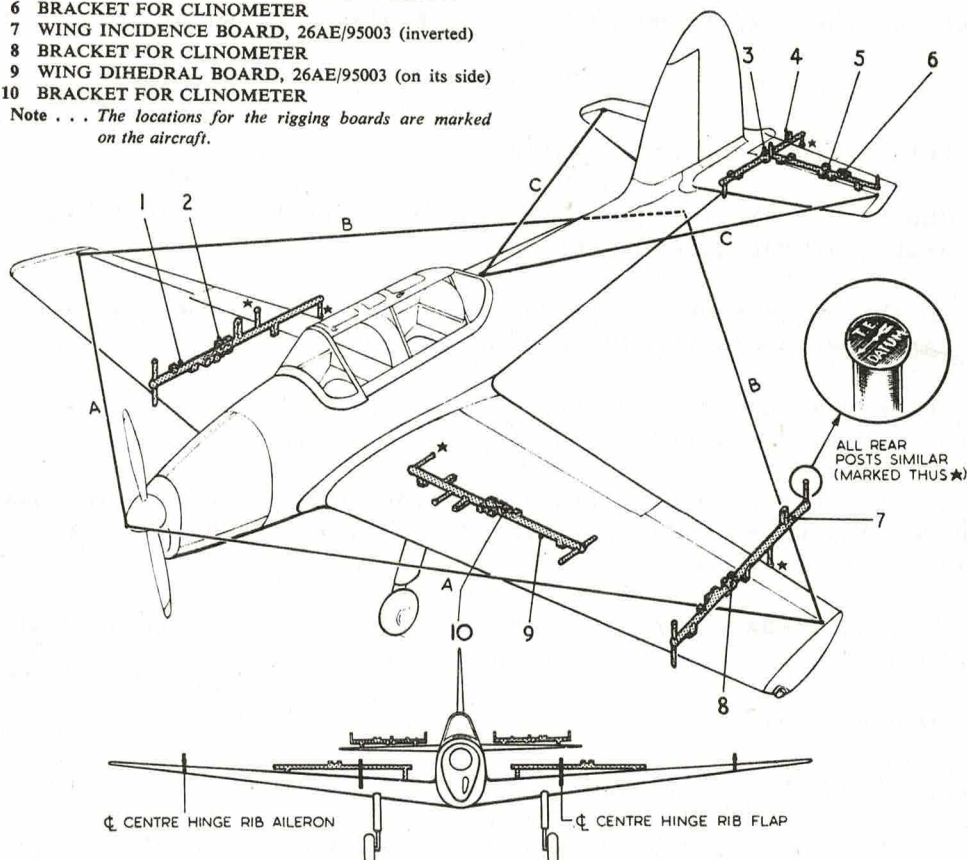

Fig. 1. Rigging diagram
Rigging (fig.1)
4. The sequence for checking the incidence, dihedral and diagonal measurement tolerances is shown in the key which faces fig.1.
KEY TO FIG.1 (RIGGING DIAGRAM)
1. Set the elevators neutral, i.e. : in line with the tailplane, checking by the T.E. Datum post at the rear of the incidence board (Ref. No.26AE/95004), which should be located correctly as on Figure 1.
2. With the aircraft in the rigging position, apply a spring balance at the trailing edge and pull upwards to a tension of 2 lb; in this position and with the incidence board (Stores Ref. 26AE/95003) located correctly on the aileron centre hinge rib (fig.1), the trailing edge, should be in line with the appropriate T.E. DATUM post at the rear of the incidence board, i.e. should form a continuation of the fixed wing profile.
2. Slacken off the cables by the turnbuckles (8).
3. With the incidence board (Stores Ref. 26AE/95003) located correctly on the flap centre hinge rib (fig.1), adjust the control arm (9) so that the flap contour forms a continuation of the wing profile; this can be checked by ensuring that the trailing edge of the flap is level with the appropriate T.E. DATUM post at the rear of the incidence board. In this position, the spring (4) should hold the control arm against the layshaft.